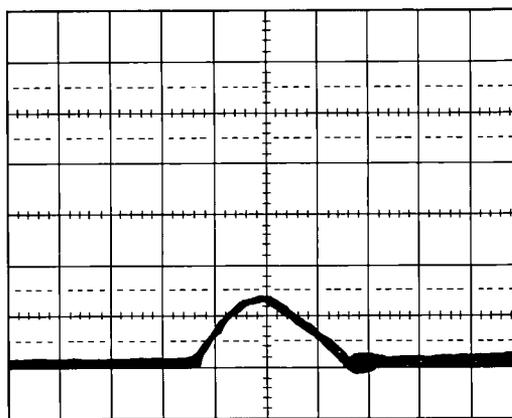

Figure 5-32. Amplitude Marker Waveform
11. Press the Spectrum Analyzer **CENTER FREQUENCY** key then use the rotary knob to set Center Frequency so the peak of the signal is at the center line of the oscilloscope screen. (See Figure 5-32.)